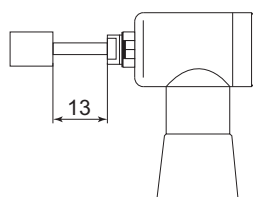

Fig. 1
- ① This Attachment is designed for hand use. Never install this Attachment or any hand tool on a machine such as a special purpose machine, NC lathe or mill.
- ② Do not touch the cutting tool while it is rotating. It is very dangerous.
- ③ Always wear safety glasses, dust mask and use a protective cover.
- ④ When installing a cutting tool, tighten the collet chuck correctly and recheck the collet chuck before use. Do not overtighten the collet chuck. This may cause damage to the spindle.
- ⑤ Do not exceed 13mm of overhang for mounted grindstones as shown in Fig. 1. If the overhang must exceed 13mm, reduce the motor speed in accordance with Table 1.
- ⑥ Do not use bent, broken, chipped, out of round or sub-standard cutting tools as they may cause shatter or explode. The cutting tool with cracked, bended may cause some injury to operator.